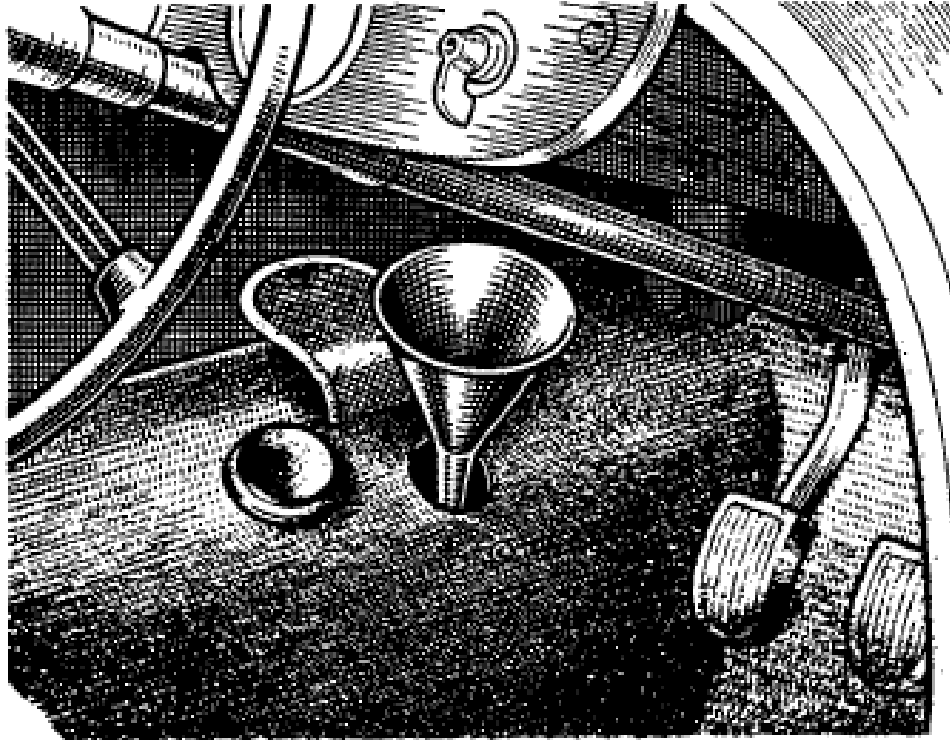

Fig. P.3 Topping up the gearbox
GEARBOX OIL CHANGE (A) Drain the gearbox oil. When the gearbox has been drained completely, 4. Imperial pints (56 U.S. pints, 2-56 litres) of oil are required to fill it. The oil should be poured in through the filler plug shown in Fig. P.3.